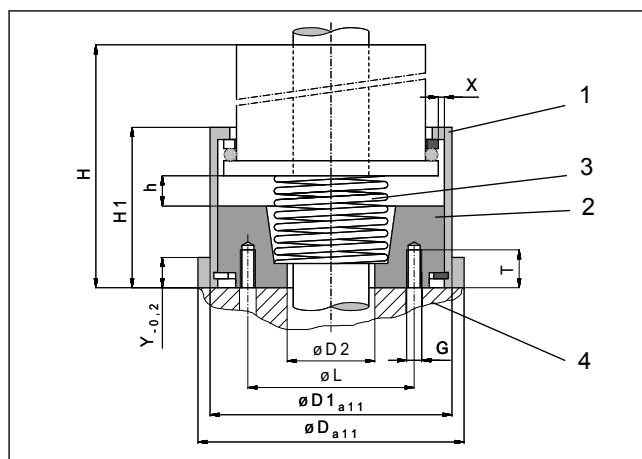

Fig. 1: Dimensions of spring base for Safety Catchers KR 25 to KR 80 and KRP 25 to KRP 80
Connected to the bottom plate (2) Fig. 1 the housing (1) Fig. 1 is securely fixed to the machine frame (4) Fig. 1.
When released (i.e. not under load), the Safety Catcher is pressed upward by the spring (3) Fig. 1 against the stop.
Inside the housing the Safety Catcher is free to move vertically (stroke "h") as well as horizontally (radial play of 2 mm) against the machine frame (4) Fig. 1.